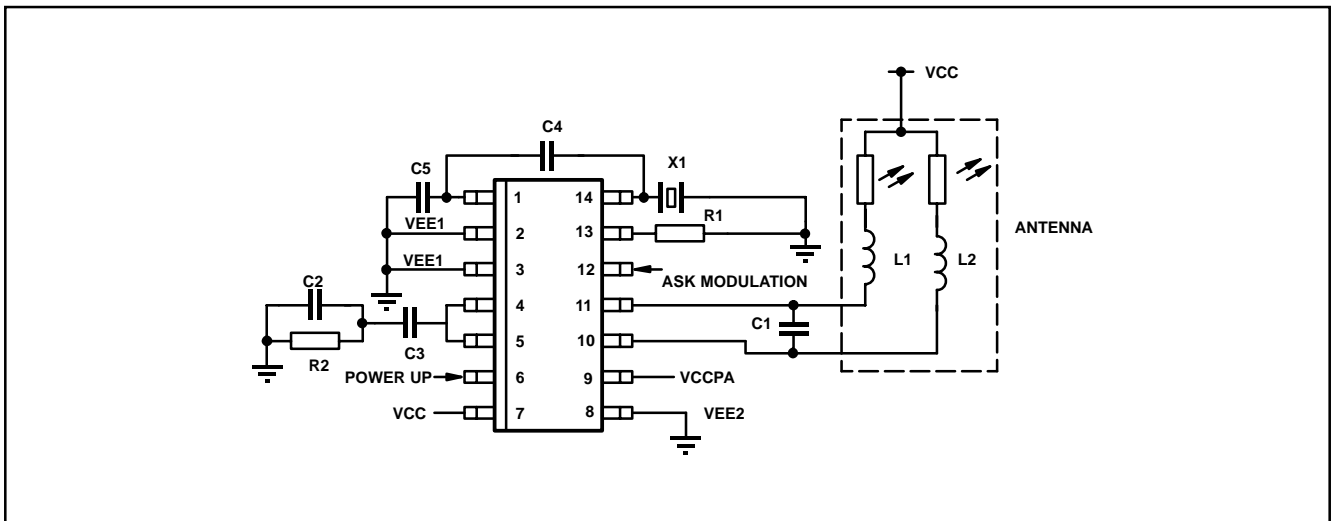

Figure 6 Application diagram
3. Regulatory issues demand that transmission does not take place until the PLL has acquired lock and the VCO is operating at its final output frequency. This requirement demands that pin TXEN is set high at least Txe ms prior to the transmission of any data. This value is dependent on the PLL loop bandwidth and hence on the value of the external loop filter component values. The specification value above is for the loop filter components shown in the applications diagram (Figure. 6)
A single transistor Colpitts crystal oscillator provides a reference clock for the PLL. The oscillator is configured for parallel resonant operation in the fundamental mode (typical operating frequency of 3–7MHz). The crystal is connected between pins XTAL2 and VEE1 with external components as shown in Figure 6.
The input signal at pin DATA produces amplitude shift key (ASK) modulation of the VCO output. This is achieved by on–off keying of the bias current in the output power amplifier stage. The output of the PA is a balanced output (pin OUT and OUTB) and is current source driven (open collector outputs). The outputs of which should be D.C. referenced to a positive supply voltage (anticipated to be Vcc in most applications). The current source outputs can drive a PCB antenna directly (Figure 6) or if a higher output power is required on limited supply headroom via a simple impedance transforming network. A balanced output stage is used as it automatically suppresses the even order harmonics of the fundamental. In order to obtain the benefits of this output stage it is essential to use a balanced antenna.